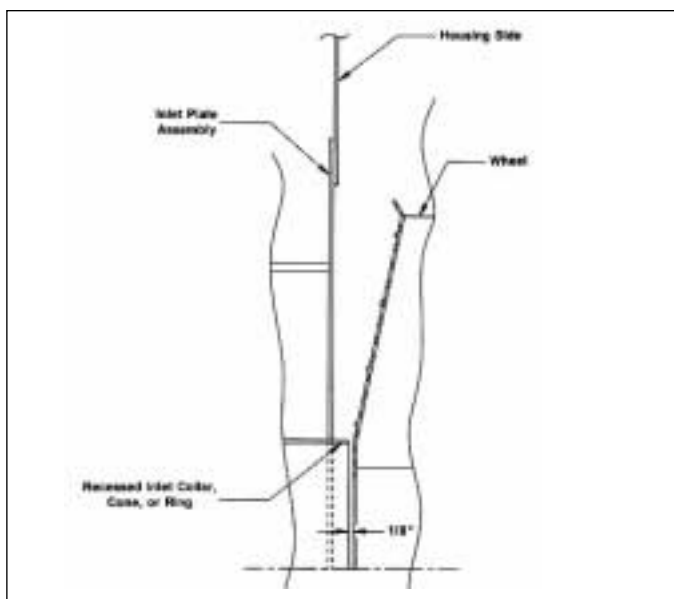

Figure 1
3. When installing a new wheel or cone, the proper wheel-to-inlet cone clearance must be maintained (see Figures 1 and 2).